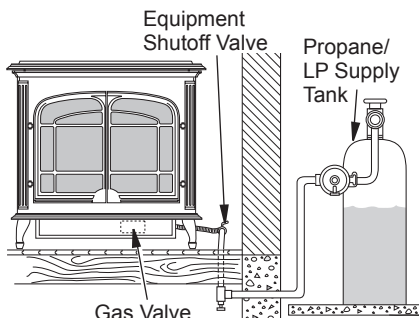
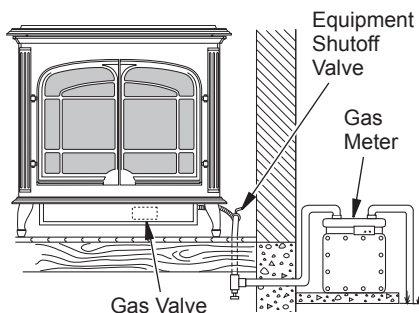

Figure 32 - Checking Gas Joints for Propane/LP Gas Burner System
Figure 33 - Checking Gas Joints for Natural Gas Burner System
3. Check all joints from propane/LP supply tank or gas meter to equipment shutoff valve (see Figure 32 for propane/LP or Figure 33 for natural gas). Apply noncorrosive leak test solution to all gas joints. Bubbles forming show a leak. Correct all leaks at once.
4. Check all joints from equipment shutoff valve to thermostat gas valve (see Figure 32 for propane/LP or Figure 33 for natural). Apply commercial leak test solution to all gas joints. Bubbles forming show a leak. Correct all leaks at once.